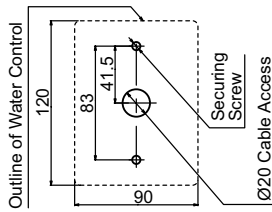

Fig. 1
2. Mark and drill 3 holes, locating the cable access as shown in Fig. 1.